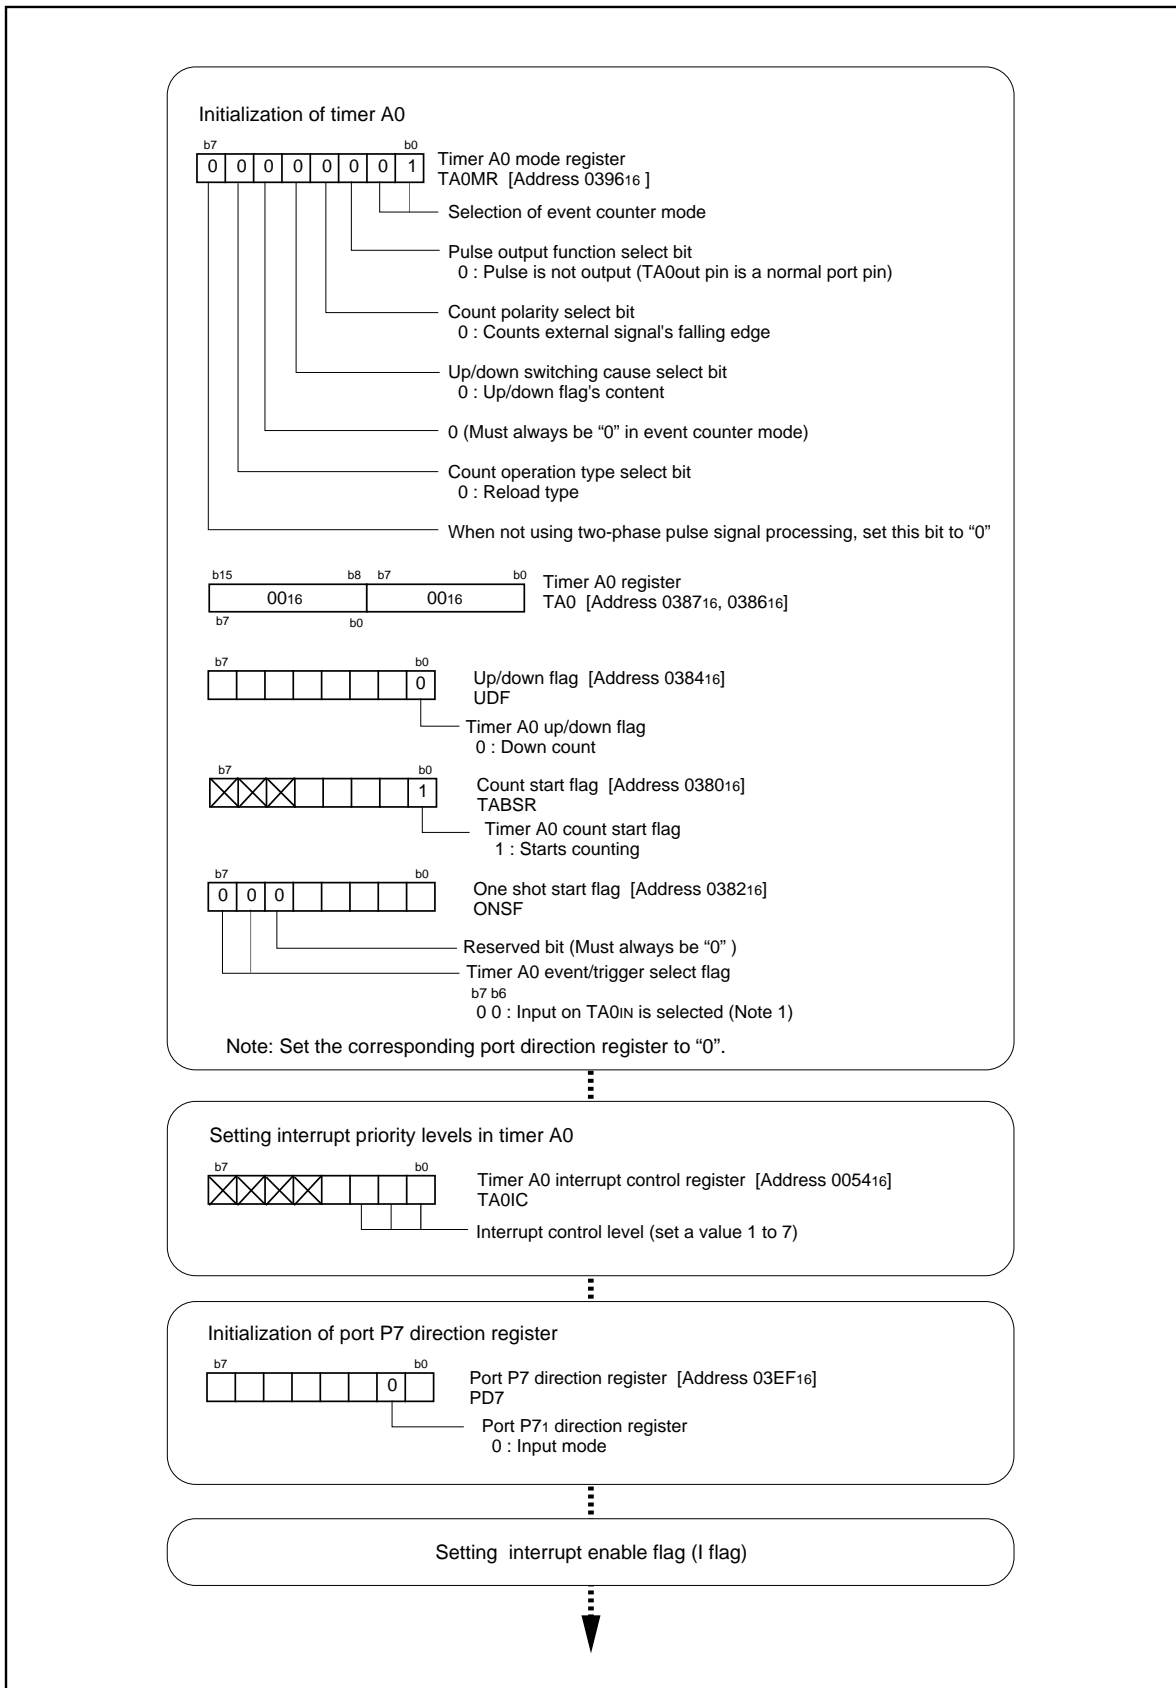

Figure 3.4.1. Set-up procedure of solution for a shortage of external interrupt pins
**Overview** The following are solution for external interrupt pins shortage. Figure 3.4.1 shows the set-up procedure.